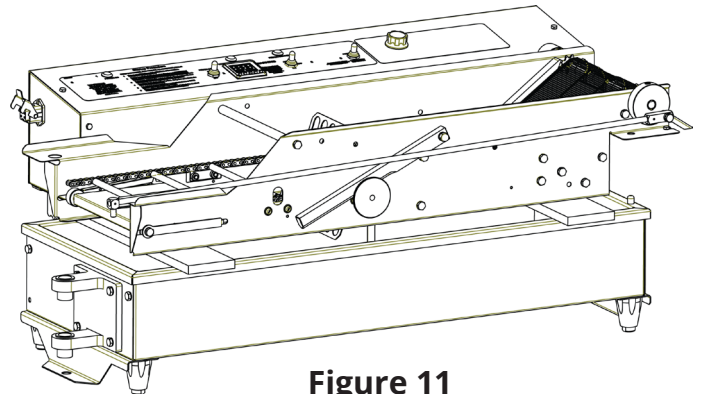

Figure 11
3. Place the conveyor on a clean surface to dry. You can also use two pieces of wood approximately 1" x 3" x 15." Place on top of the kettle and then rest the conveyor on top of the wood as shown in Figure 11.